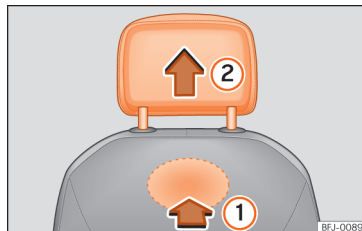

Fig. 70 Front head restraint: removal.
- To unlock it, look for the rabbet on the bottom of the backrest and press in the direction of the arrow >>> Fig. 70 ①.
- Remove the head restraint in the direction of the arrow ②.